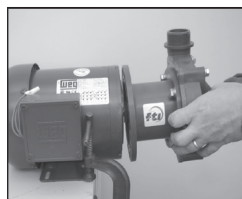

Figure 10
- Securely clamp the motor to the bench. Remove the (4) bolts, lock washers and flat washers (items 24, 25, 26) securing the pump to the motor.
- Firmly grab the pump and pull straight back to disengage the motor and the pump. See figure 10.